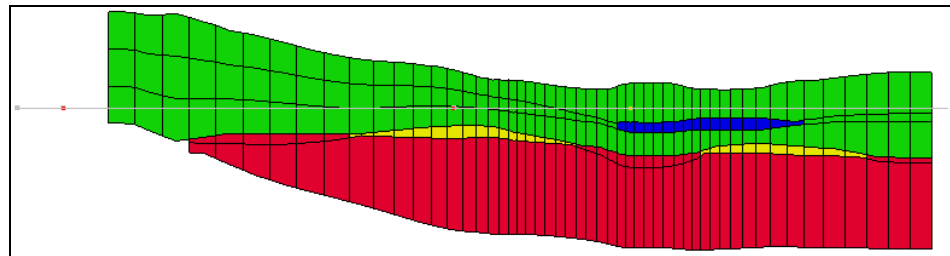

Figure 13 Row 30 of grid after Solids → MODFLOW using boundary matching
6. Use the arrow buttons  in the Mini Grid Toolbar, to view row 30 (Figure 13).
The purpose of boundary matching is to ensure that each upper and lower boundary defined by the solid model is precisely matched by a layer boundary in the MODFLOW grid. As a result of this approach, thin cells often occur where solids pinchout. Notice the thin cells on the edges of the clay (yellow) and silty-clay (blue) solids in Figure 13. If wanting to limit the effect of the thin cells in the model grid, set a minimum target thickness for each of the solids.